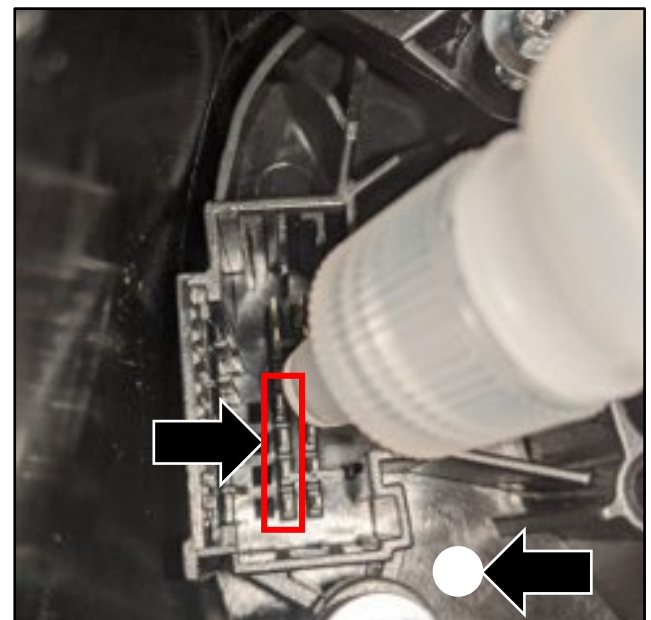

Figure 2
4. Use a drip applicator to carefully apply Stabilant 22 solution to the terminals identified in step 3 (refer to Figure 2).
5. When step 5 is complete use a white paint pen to mark the area shown with a white dot (refer to Figure 2).